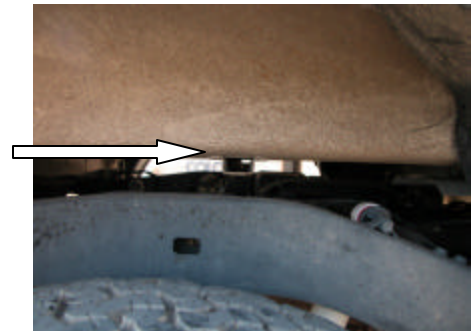

Figure 4.
3. Install the rectangular polyurethane bed spacer on to the bed, sliding the clip into the bed rail support near the tire. See figure 4.